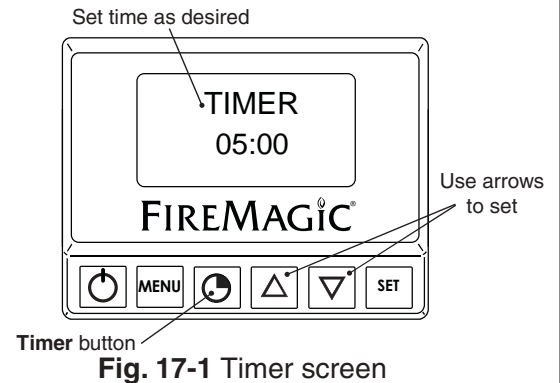

Fig. 17-1 Timer screen
1. Press the timer button. Use the arrows to set the desired amount of time (see Fig. 17-1.)